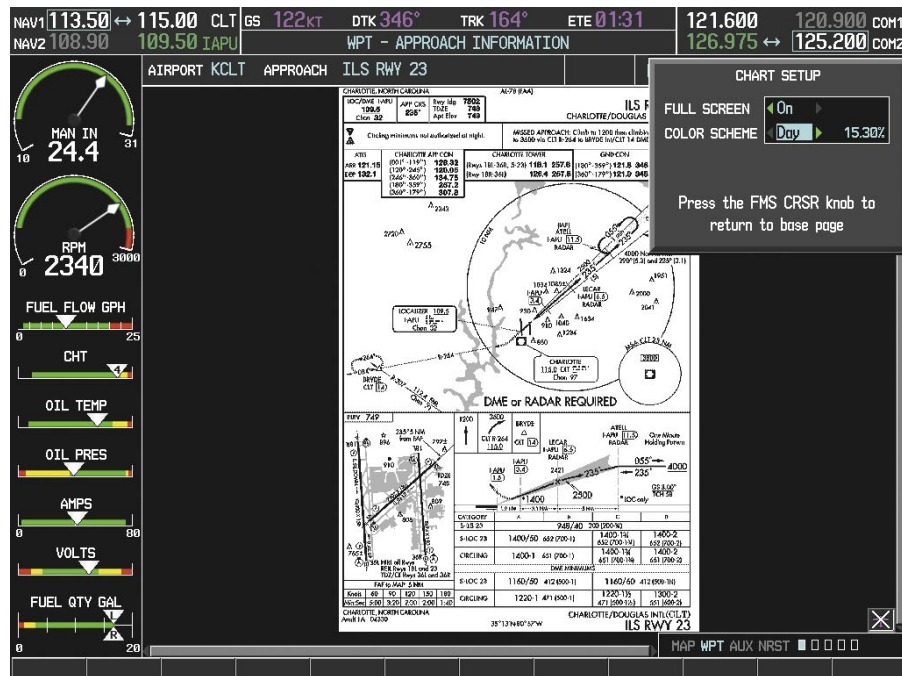

Figure 8-64 Approach Information Page, Day View
- 3) Turn the large **FMS** Knob to move to the COLOR SCHEME Option (Figure 8-64).